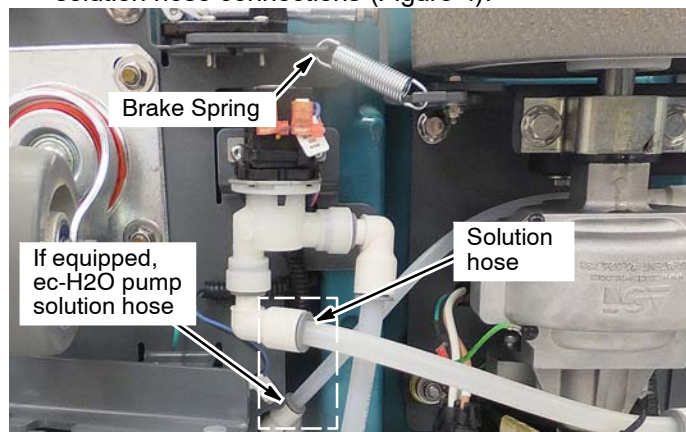

Fig. 4
2. Disconnect the brake spring and the designated solution hose connections (Figure 4).